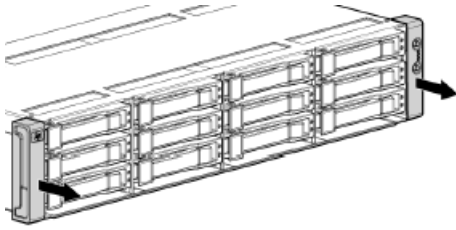

Figure 8 Removing bezels from enclosure
1. Remove the bezels installed over the thumbscrews on the front of the enclosure (Figure 8).